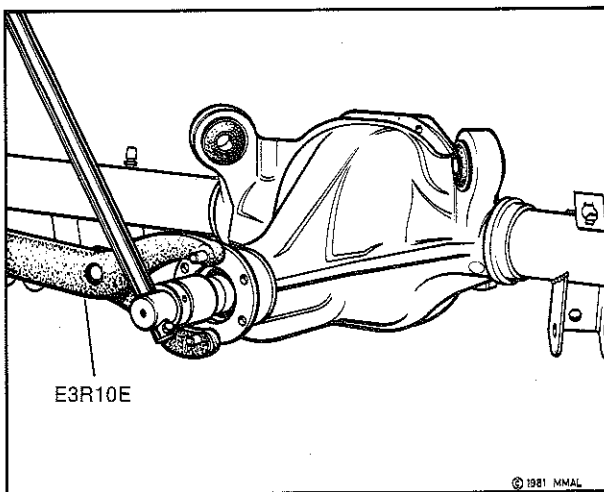

Fig. 13—Removing pinion nut
(4) Hold pinion flange with tool E3R10E and remove pinion nut, refer Fig. 13.